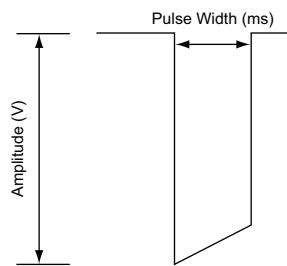

Figure 2-6. Pulse waveform
- The energy delivered to the heart is directly proportional to the Pulse Width; doubling the Pulse Width doubles the energy delivered. Therefore, programming a shorter Pulse Width while maintaining an adequate safety margin may increase battery longevity. To prevent loss of capture, exercise caution when you are programming permanent Pulse Width values of less than 0.3 ms (Figure 2-6 on page 2-13).
The pulse amplitude, or voltage of the output pulse, is measured at the leading edge of the output pulse (Figure 2-6 on page 2-13).